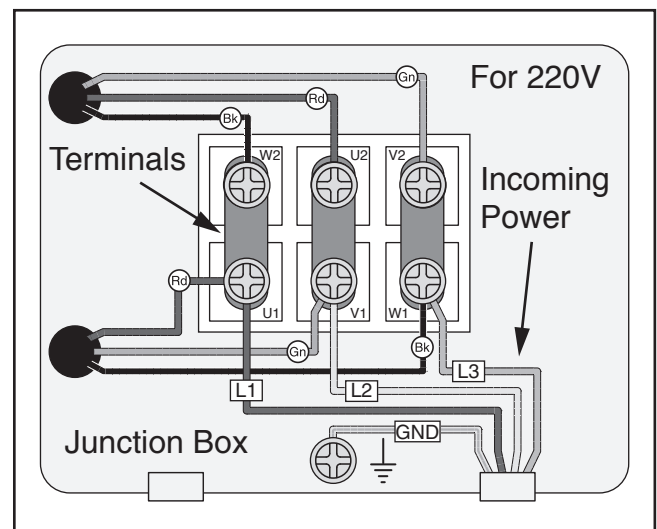

Figure 99. Vacuum pump junction box connection in delta configuration for 220V.
- If air *is not* moving in correct direction, stop vacuum pump and DISCONNECT FROM POWER! Phase of incoming power supply is reversed. Remove vacuum pump junction box cover and swap incoming power wires at U1 and V1 terminals, as shown in **Figure 99**, then re-install junction box cover and reconnect vacuum pump to power. Repeat **Step 2**.